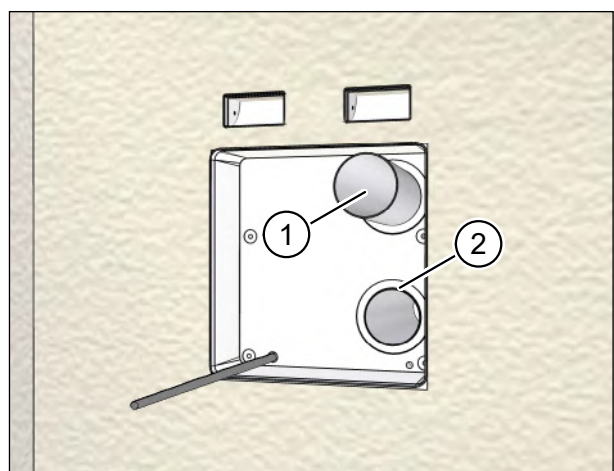

Fig. 34: Cutting ventilation pipes to length
- ▶ Push the two ventilation pipes (item 1 in Fig. 34) into the openings in the installation kit until they end flush with the inside of the installation kit (item 2 in Fig. 34).